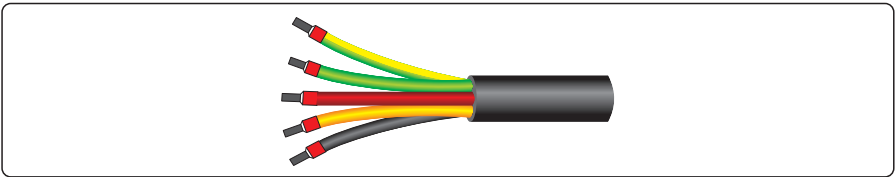

Figure 5.5 Crimping Euro type terminals
**Step 2** Crimp Euro type terminals using special crimping tool, shown in Figure 5.5.